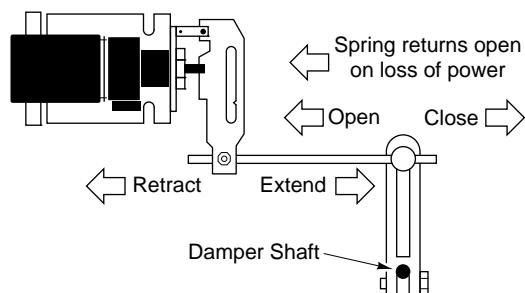
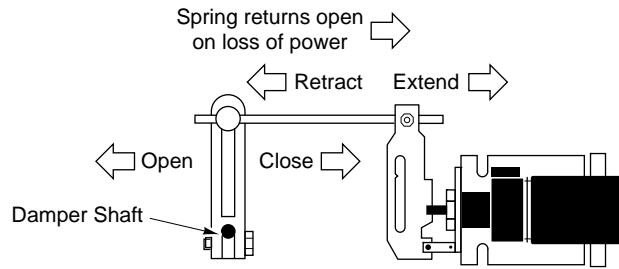

Figure-14 Dampers Open When Actuator Retracts
Figure-15 Dampers Open When Actuator Extends
- a. Determine, from the system requirements, if the damper should spring-return to the open position (Figure-14) or closed position (Figure-15) whenever power is lost to the actuator. An actuator is normally linked so as to retract (spring-return) to the damper's fully open position (heat position).